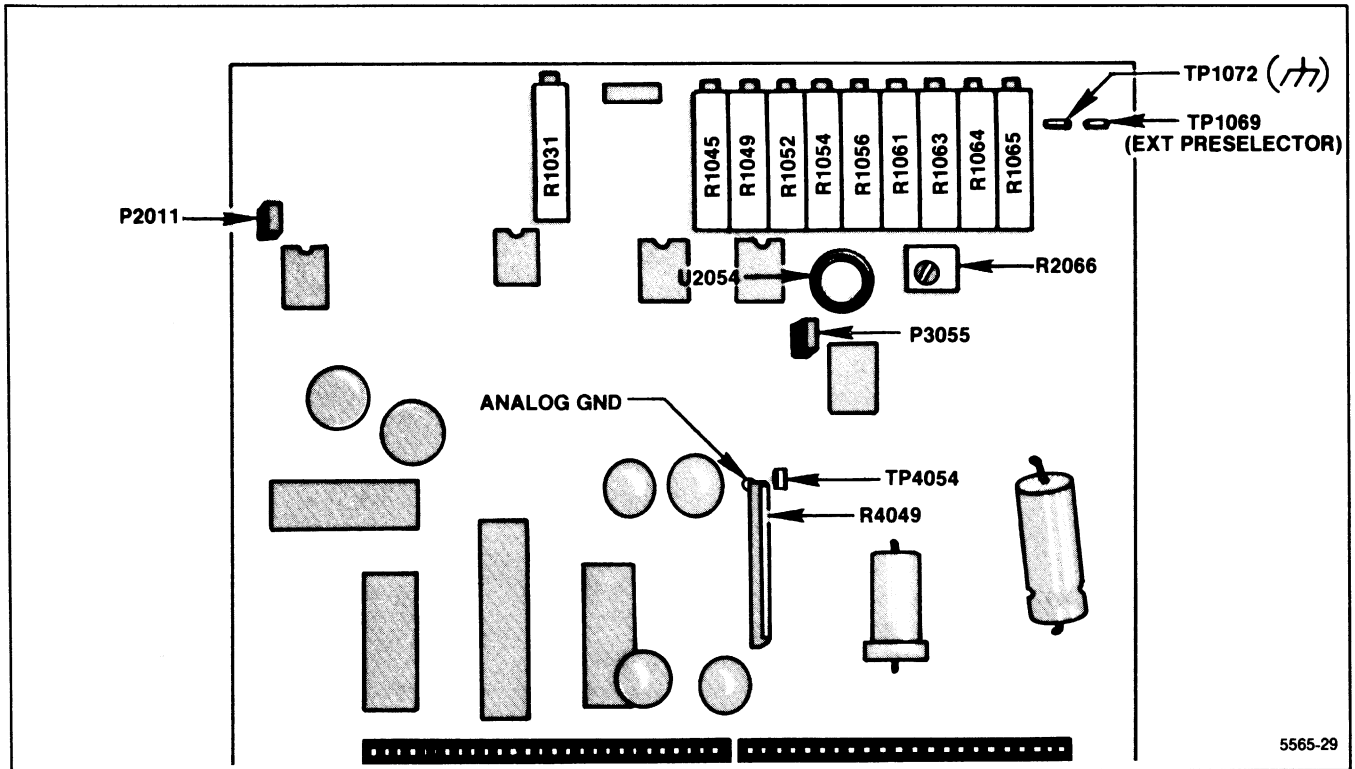

Figure 5-23. Preselector Driver test point and adjustment locations.
b. Set the offset for driver U2054 as follows: (Offset should only require adjusting if U2054 is changed.) Switch POWER off, pull the Preselector Driver board and install on extender board (Figure 5-23) then switch POWER on.
(1) Set the ΔBAND/BAND▽ to band 1 (0—1.8 GHz).
(2) Remove P3055 and connect a DVM between TP4054 and analog ground (Figure 5-23). Set the voltmeter range to 30 μV or less.
(3) Starting from a fully counterclockwise position, adjust Driver Offset R2066 (Figure 5-23) for 0 V at TP4054.
(4) Disconnect the DVM, replace P3055, then switch POWER off and reinstall the Preselector Driver board. Switch POWER back on.
e. Set the CF/MARKER FREQUENCY to center the 2.1 GHz marker. Center the Input Offset adjustment R1031 (Figure 5-23), then center the 2.1 GHz marker with the CF/MARKER FREQUENCY control. Ground TP1069 with a jumper strap.
g. Peak the 2.1 GHz signal with the -829 MHz IF Offset R1049 (Figure 5-23).
n. Increase **FREQUENCY** to the 12 GHz marker, then peak the 12 GHz point with Shaper #1 R1054 adjustment (Figure 5-23).
u. Adjust **-829 MHz IF Offset** R1049 (Figure 5-23) to peak the 3.5 GHz response.
x. Tune the 19 GHz marker to center screen then peak the 19 GHz signal with Shaper #3 R1061 adjustment (Figure 5-23).